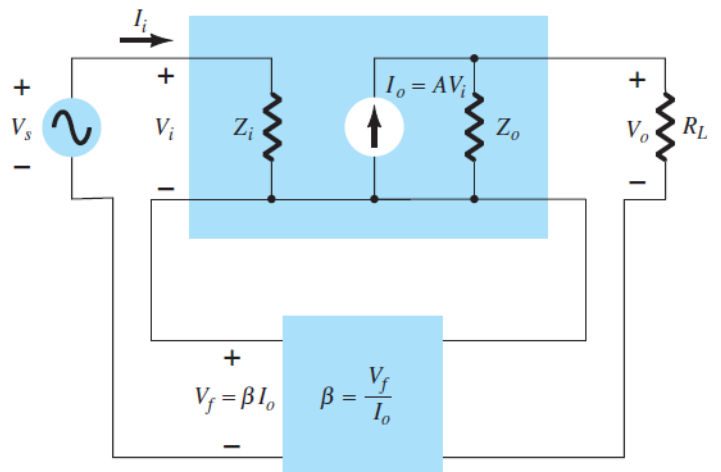

Fig.5
The output impedance with current-series feedback can be determined by applying a signal  $V$  to the output with  $V_s$  shorted out, resulting in a current  $I$ , the ratio of  $V$  to  $I$  being the output impedance. Figure 5 shows a more detailed connection with current-series feedback. For the output part of a current-series feedback connection shown in Fig. 5, the resulting output impedance is determined as follows.
**EXAMPLE 2** Calculate the amplifier gain of the circuit of Fig. 5 for op-amp gain  $A = 100,000$  and resistances  $R_1 = 1.8 \text{ k}\Omega$  and  $R_2 = 200 \Omega$ .